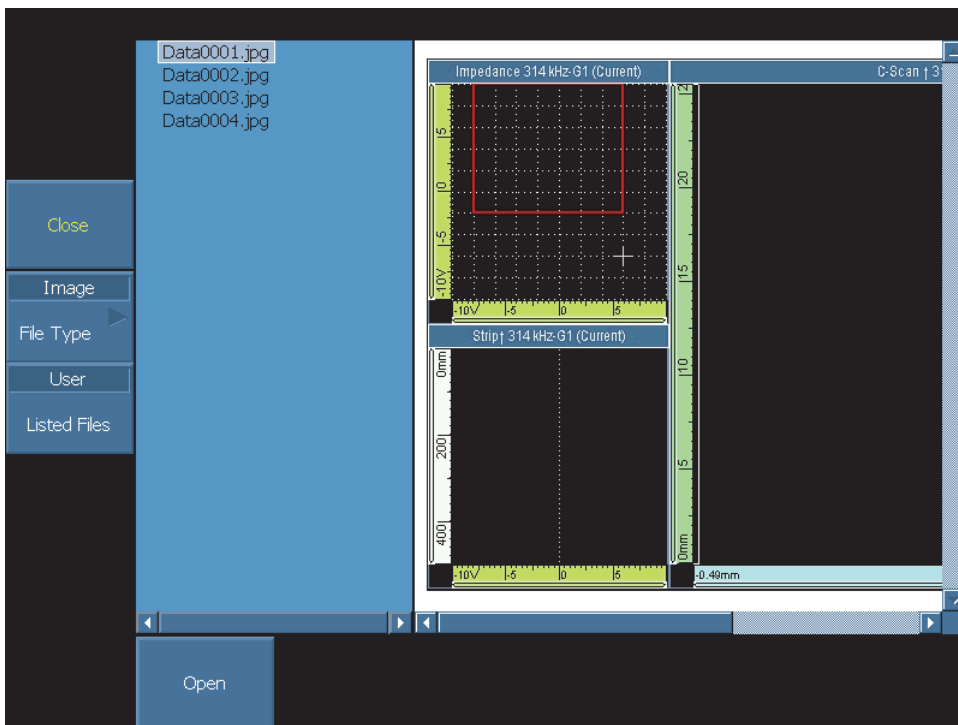

Figure 11-8 The File Manager window
1. Press the Open File key . The **File Manager** window appears (see Figure 11-8 on page 205).